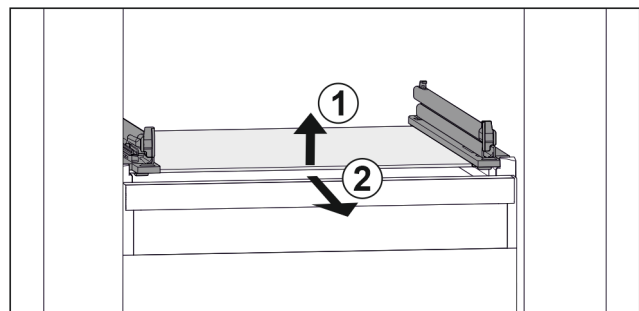

Fig. 71 Example illustration of glass shelf
- ▶ Lift glass shelf at the front. Fig. 71 (1)
- ▶ Remove glass shelf to the front. Fig. 71 (2)